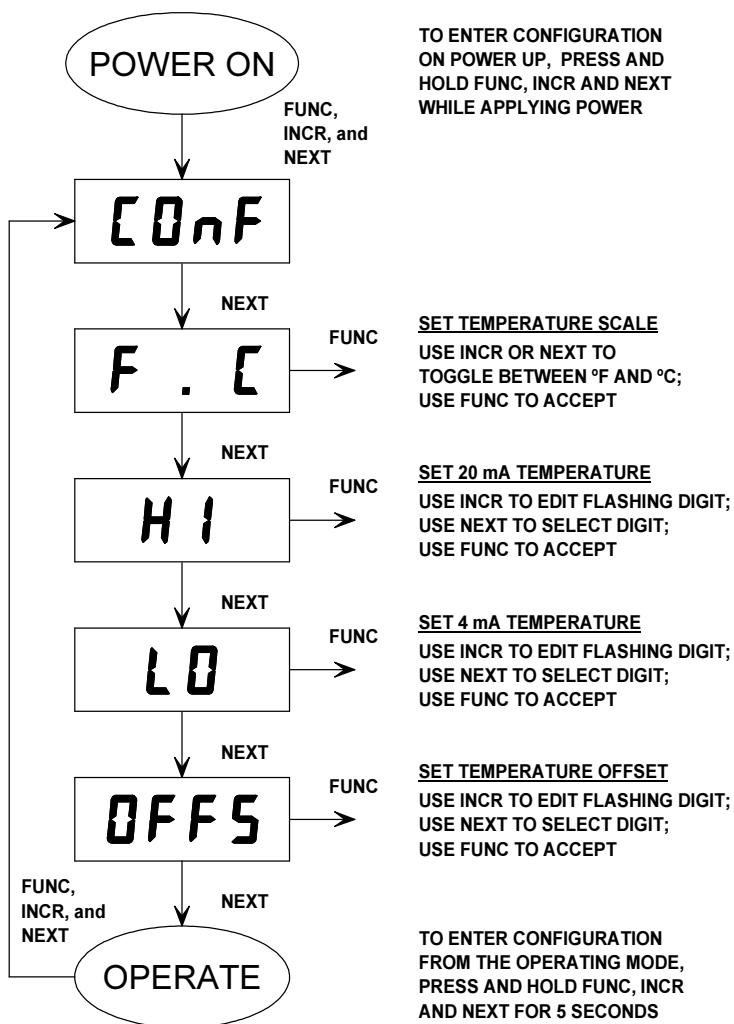

Figure 4. Configuration Flow Chart
*Note: Figure 4 on page 9 presents this information in a flowchart*